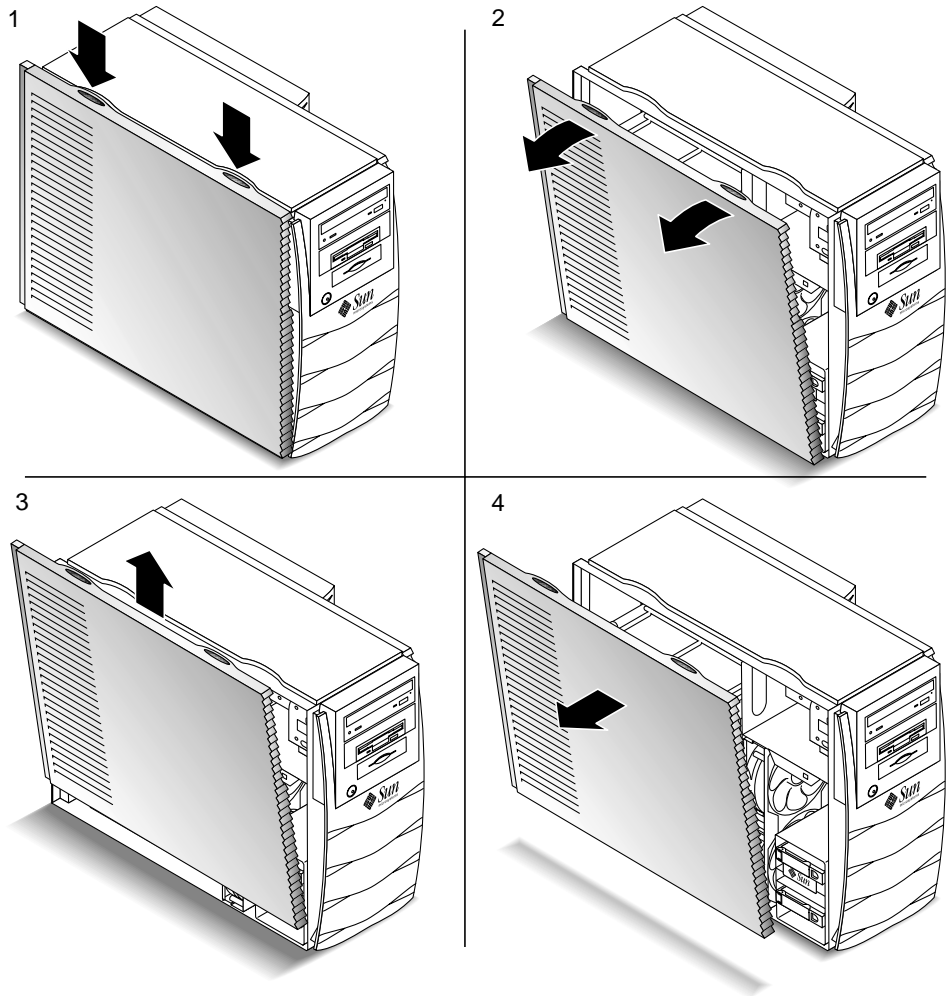

FIGURE 8 Preparing for Installation of Internal Components
2. Press down on the two depressions at the top of the access panel (see FIGURE 8).